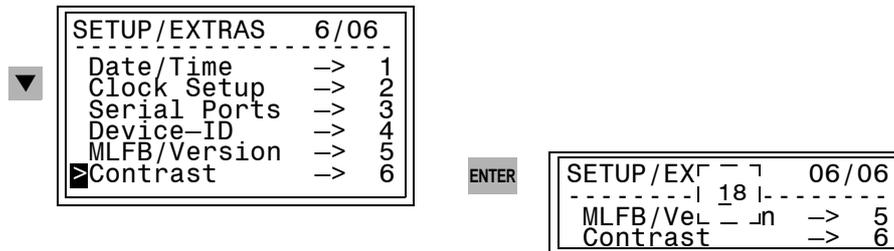

Figure 3-3 Operating sub-menu for adjusting the display contrast
- Using the **▼** key, select the menu item **Setup/Extras** and switch to the selection **SETUP/EXTRAS** using the **▶** key. See Figure 3-3.